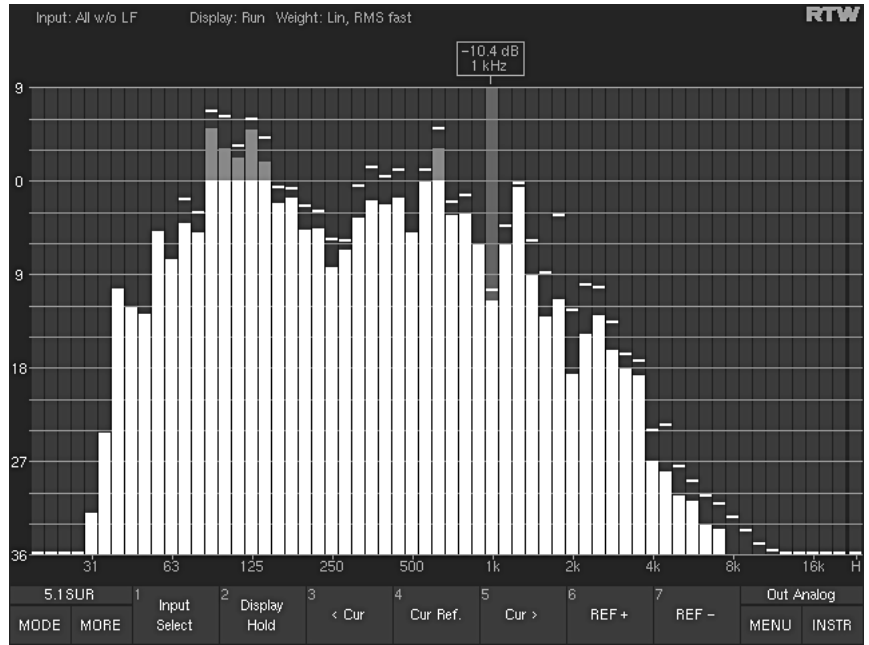

Fig. 5-22: First Toolbar function layer of the RTA instruments in 5.1 Surround mode. Select MORE to display additional functions (level 2) (Example: RTA 1/6)
(First layer, button/key 1, see Fig. 5-22)
(First layer, button/key 2, see Fig. 5-22)
(First layer, button/key 3 and button/key 5, see Fig. 5-22)
(First layer, button/key 4, see Fig. 5-22)
(First layer, button/key 6 and button/key 7, see Fig. 5-22)